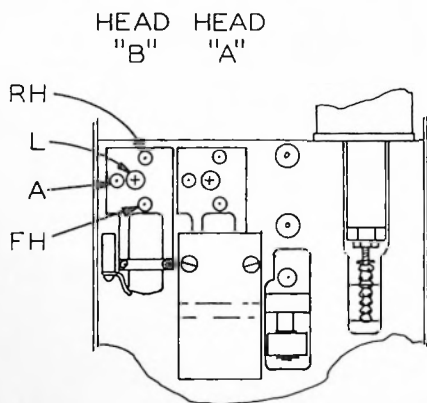
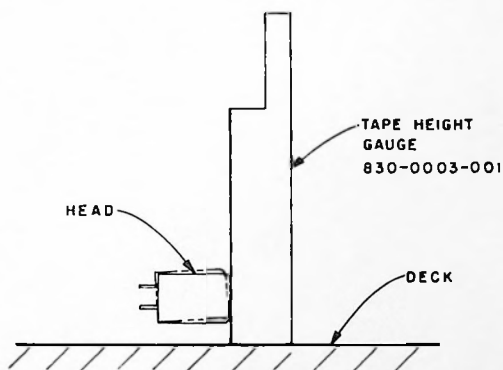

FIGURE 4-8
FIGURE 4-9
2. Height Adjustment: See Figure 4-8 for the location of the adjustment screws mentioned below.
- a. Loosen the lock screw (L) by turning it counter clockwise approximately four complete turns.
- b. Coarse height - adjust the front height screw (FH) until the top of the upper head track (pole piece) is $\frac{9}{16}$ of an inch above the deck surface.
- c. Coarse zenith - adjust the front height screw (FH) until the face of the head is perpendicular with the surface of the deck. Rest one edge of a metal rule (or any gauge known to be square) on the deck surface and move it against the face of the head. When perpendicularity has been achieved, no space will be visible between the face of the head and the "square". (See Figure 4-9.)
- b. Meter the output of the Reproducer and adjust azimuth screw A of the reproducing head for maximum output level. (See Figure 4-8.)
- d. Meter the output of the reproducer and adjust azimuth screw A of head B, the recording head, for maximum playback output level while recording the 15 kHz tone (see Figure 4-8).